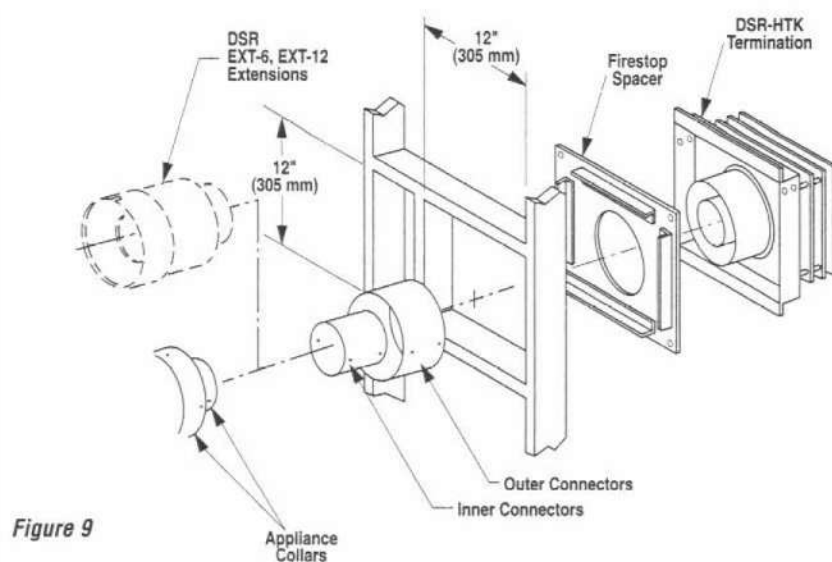

Figure 9
To install the DSR-HTK kit, Attach both inner and outer connectors to the inner and outer appliance collars with two (2) #8 x 1/2" sheet metal screws per collar that are provided. Holes in both the appliance collars and the termination connectors properly locate these components (Refer to Figure 9). After attaching the collars, position the appliance in its final location so that the connectors extend through the exterior wall.
Attach the firestop spacer to the outside surface of the wall as shown in Figure 9 and 10. The termination housing must be oriented with the surface marked "TOP" upward. Align the termination extension tubes with the connectors and engage both inner and outer extension tubes over both connectors. The DSR-HTK Termination requires the application of a liberal bead of high temperature caulking on the mounting flanges to seal. Slide the termination inward until the housing bottoms out at the exterior wall surface. Secure the termination using 6d nails at holes in the upper and lower housing flanges.